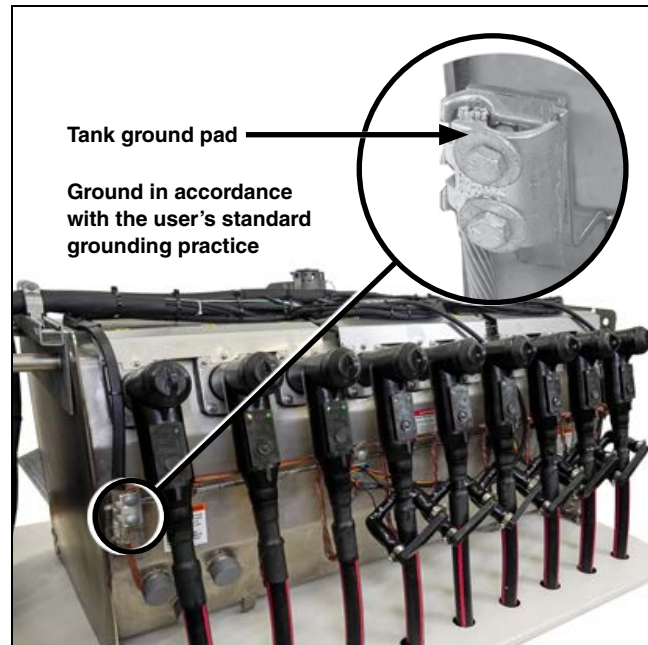

Figure 53. The tank ground pad.
- STEP 1.** Connect the cable concentric-neutral ground wires to the grounding system as appropriate. See Figure 53.